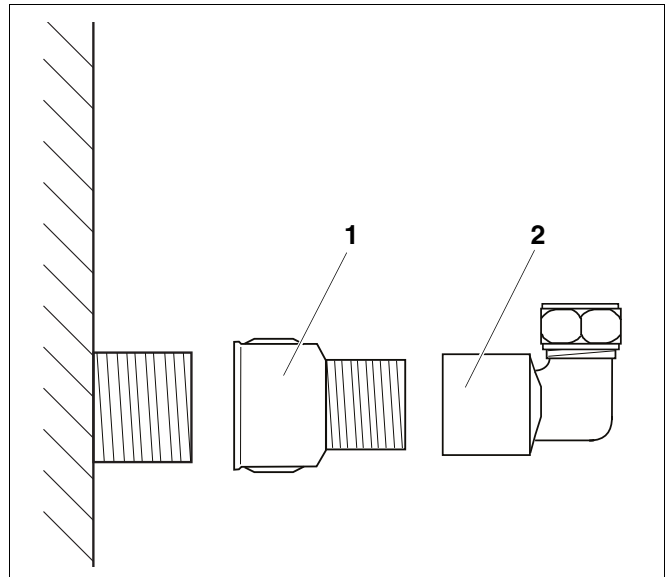

Fig. 4 Connect the cylinder with R1 connections.
- On cylinders with R1 connections, install the reducing coupling (Fig. 4, **Item 1**) and the elbow compression fittings (Fig. 4, **Item 2**).